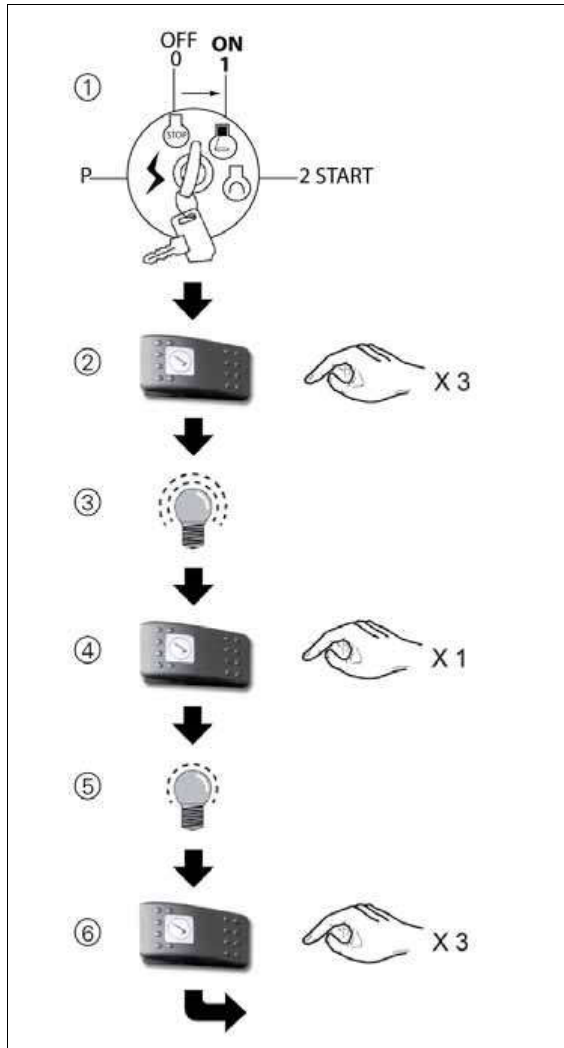

Fig. 3.
3. After a short pause the last failure code can be read from the signal lamp. This code is repeated until the diagnosis switch is pressed once again. The failure code can be read as follows: A long flash (1.5 sec) shows the hundreds, a medium flash (1.0 sec) the tens and a short flash (0.5 sec) the ones. The number of flashes separated by intervals of 0.5 seconds specifies the number of hundreds, tens and ones. There is a pause of 1.5 seconds between the individual series of flashes and a pause of 2.5 seconds when the code is repeated from the start. As an example, see *fig. 3* showing failure code No. 123.